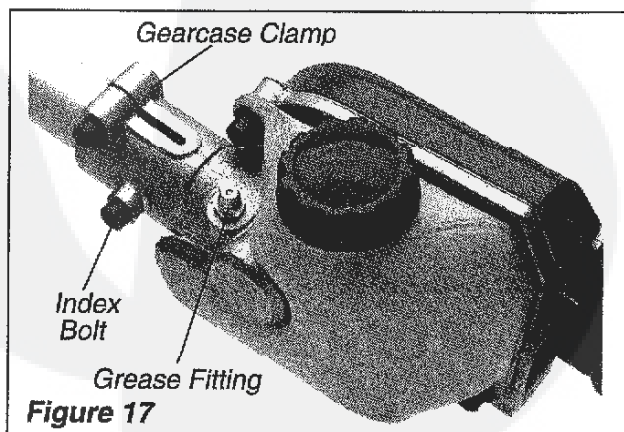

Figure 17
- **Lubricate the gearcase.** To perform this operation, first remove the gearcase from the upper outer tube as follows (Figure 17):